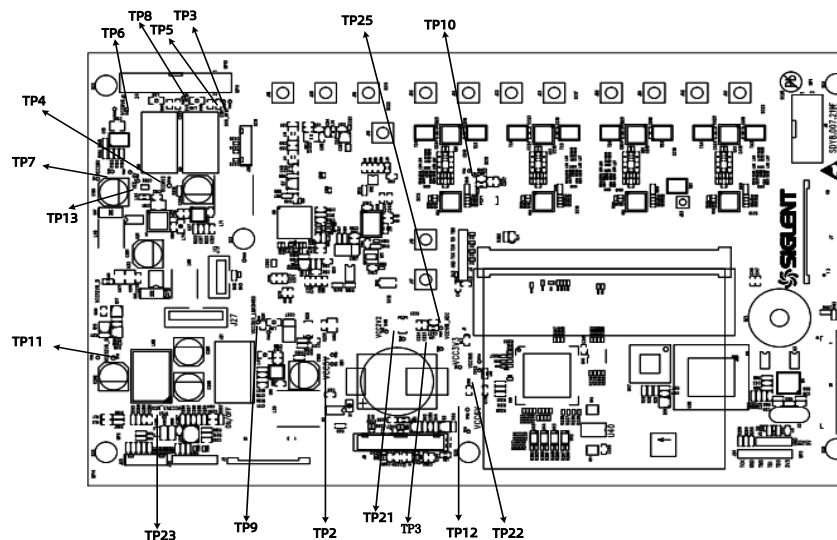

Figure 6-1 A1 Mb Board power supply LED indicators and measurement points
3、 You can determine which power supplies are functioning by viewing the LED indicators on the A1 Mb board and measuring the power supply voltages at measurement Points. Refer to Figure 6-1
Refer to Figure 6-1 for the power supply measurement points on the A1 Mb board. Refer to Table 6-1 for the correct voltages